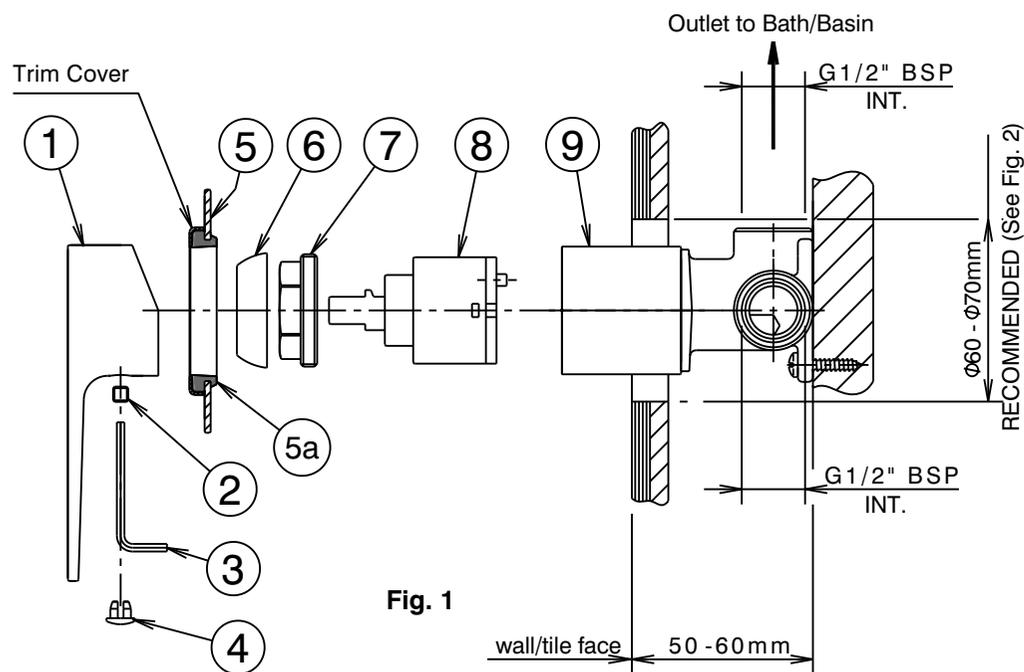
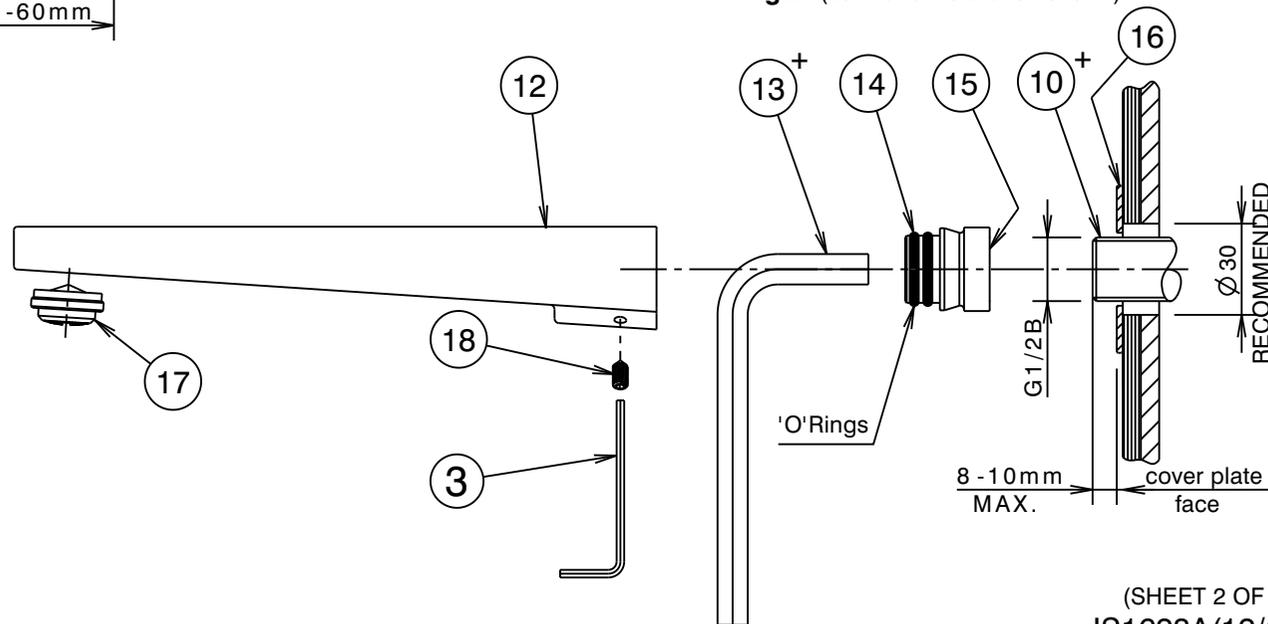

Fig. 1
Fig. 4
- 3) Carefully slide the cover plate (5) together with trim cover & seal (5a) onto the mixer body (9) ensuring the **Caroma** marking is horizontally aligned. Push firmly on the trim cover until the cover plate (5) contacts the wall/tile face. (Fig. 1). Fit the cover plate (16) over the thread of the lugged elbow (10⁺) & check that the thread is the correct length as shown (Fig. 4). Cut to length if required ensuring end face is square. Apply thread tape to the thread. **Important:** Care must be taken that thread tape cannot become dislodged and block the flow regulating device, causing a reduction in water flow. To ensure correct installation, length of exposed thread must not exceed 10mm.
- 4) Fit handle (1) taking care that it is pushed fully onto cartridge stem, tighten screw (2) using the 2.5mm allen key (3) then fit plug (4).
- 5) Locate the cover plate (16) on the thread of the wall elbow (10⁺) with the **Caroma** marking horizontally aligned. Screw the spigot (15) onto the thread of the lugged elbow (10⁺) using a 10mm allen key (13⁺) until the cover plate (16) is held securely against the wall/tile face. **DO NOT OVERTIGHTEN.** Apply suitable lubricant to 'O'Rings (14).
- 6) Fit wall outlet (12) onto the spigot (15), then carefully push it firmly against the cover plate while tightening grub screws (18) using the 2.5mm allen key (3) provided. Take care that the aerator insert (17) is pointing vertically downwards before tightening screws (18). (Fig.4)
Replacing Cartridge (Fig. 1)